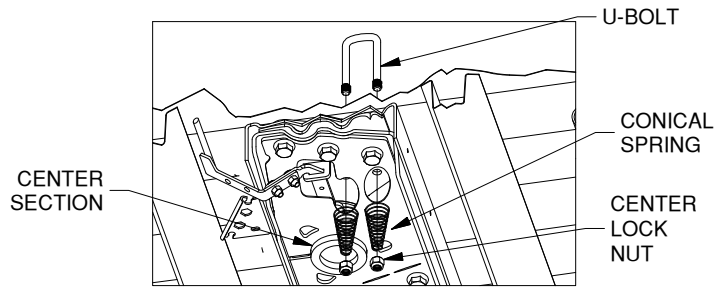

Figure E1: Cutaway, looking up at driver side of center section.
3. **Add springs.** Place a conical spring over each leg of the U-bolts and secure with a 1/2" lock nut, see Figure E1. Tighten the lock nut until the nut is flush with the end of the U-bolt.